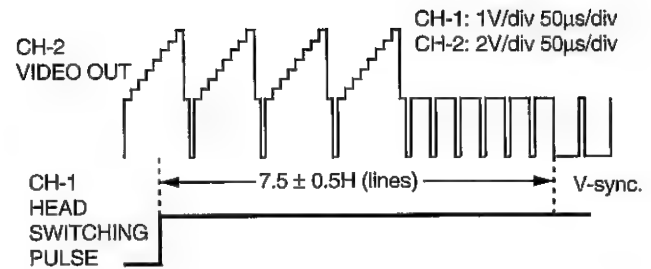

Figure 5-2.
5. Make this checking of waveform on the oscilloscope screen be as shown in Figure 5-2. just after the head switching point have been adjusted.
- ① Set-up of TEST mode.